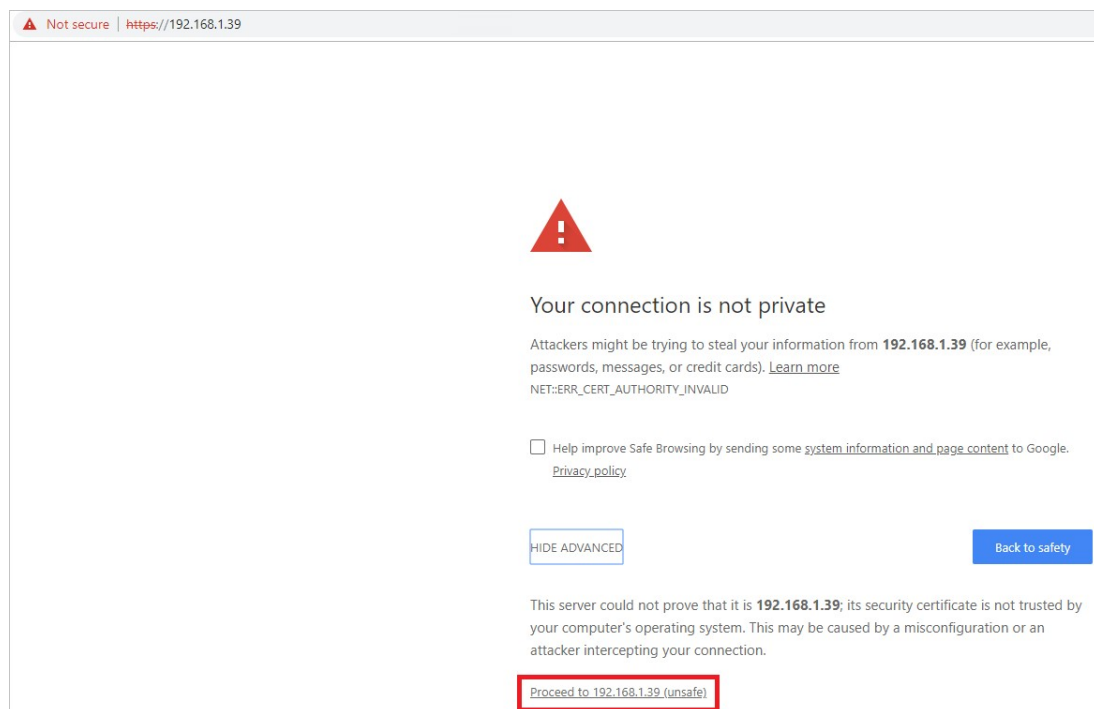

Figure 24
5.A message as in Figure 24 will be shown; click 'Proceed to...' at the bottom.